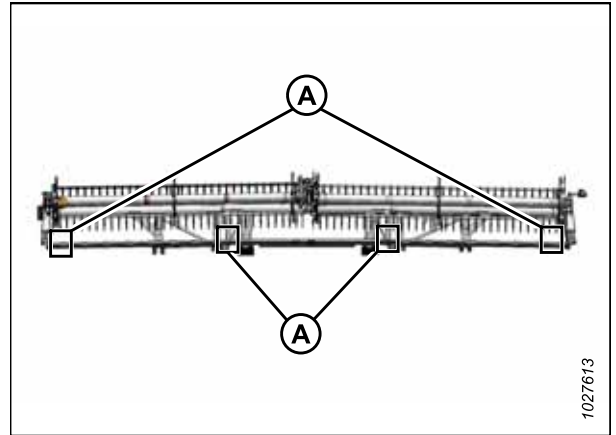

Figure 4.265: FlexDraper® Measurement Locations – Double Reel
- Double-reel headers: Figure 4.265, page 431